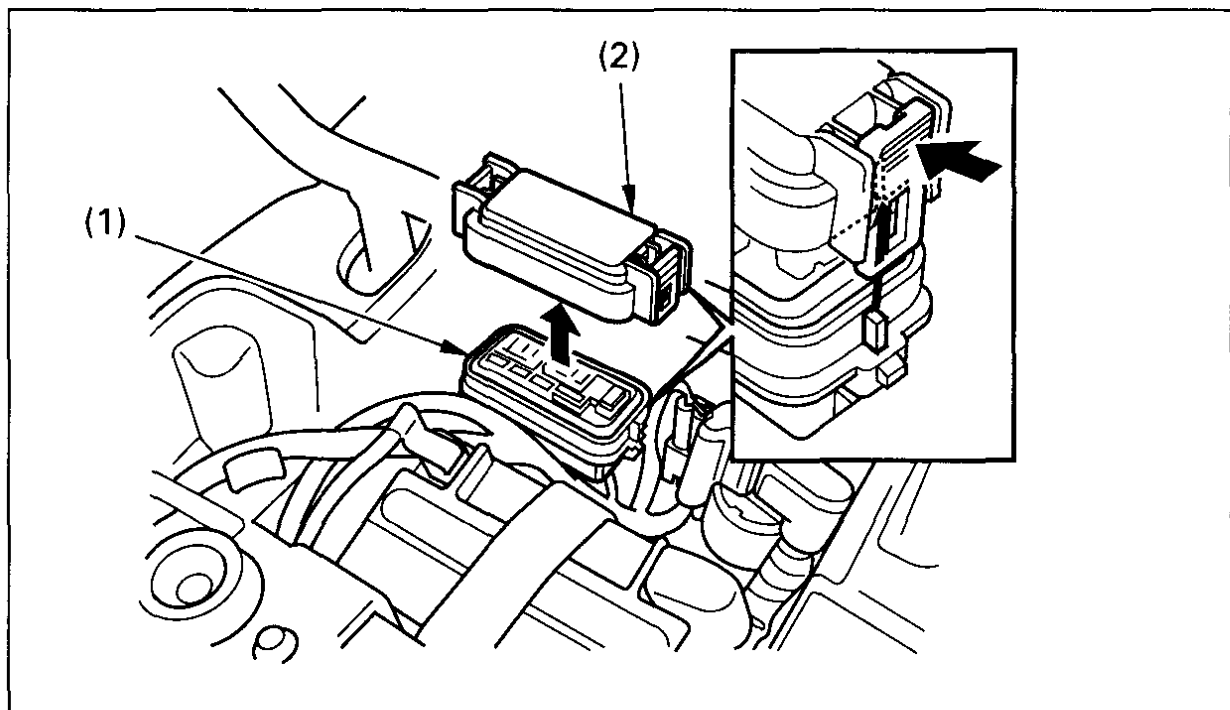

Fig. 4-20
As illustrated in Fig.4-20 , the fuse box (1) is located in the battery compartment. The main fuse, sub fuses and spare fuses are located in the fuse box.